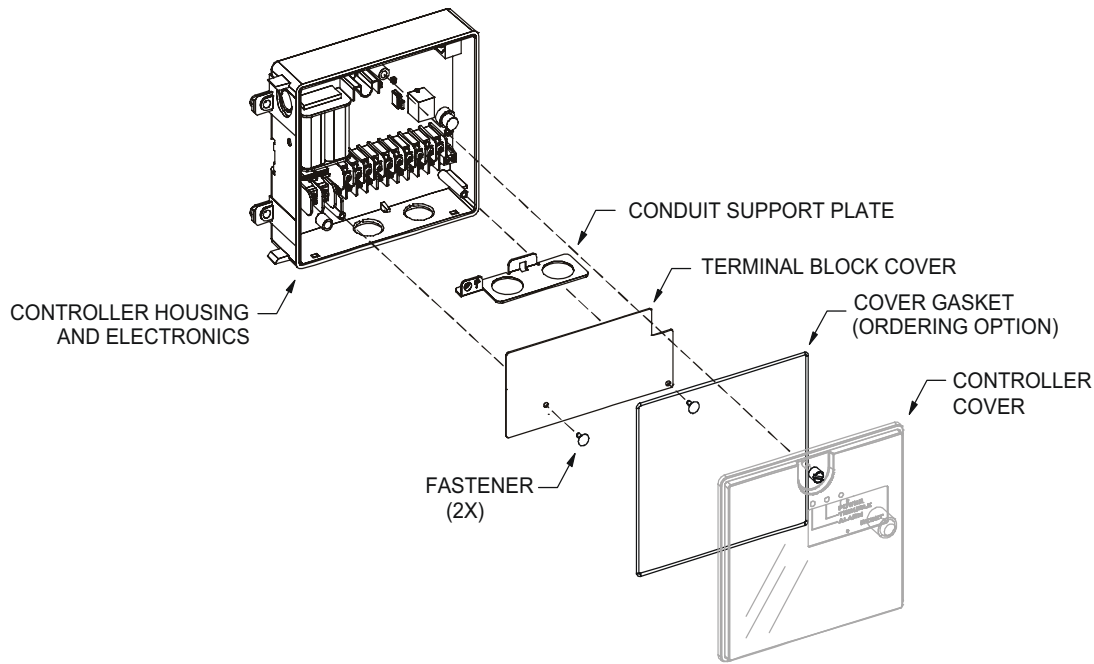

Fig. 1 — Controller Exploded View
The controller includes a controller housing, a printed circuit board, and a clear plastic cover. The controller can be connected to one or two compatible duct smoke sensors. The clear plastic cover is secured to the housing with a single captive screw for easy access to the wiring terminals (see Fig. 1). See Table 5 for controller specifications.
2. Remove plastic cover from controller (see Fig. 1).